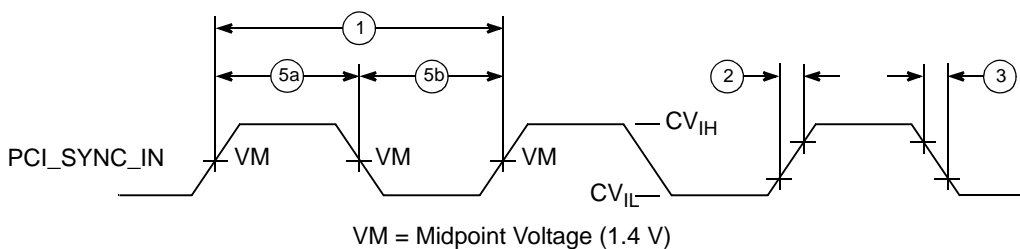
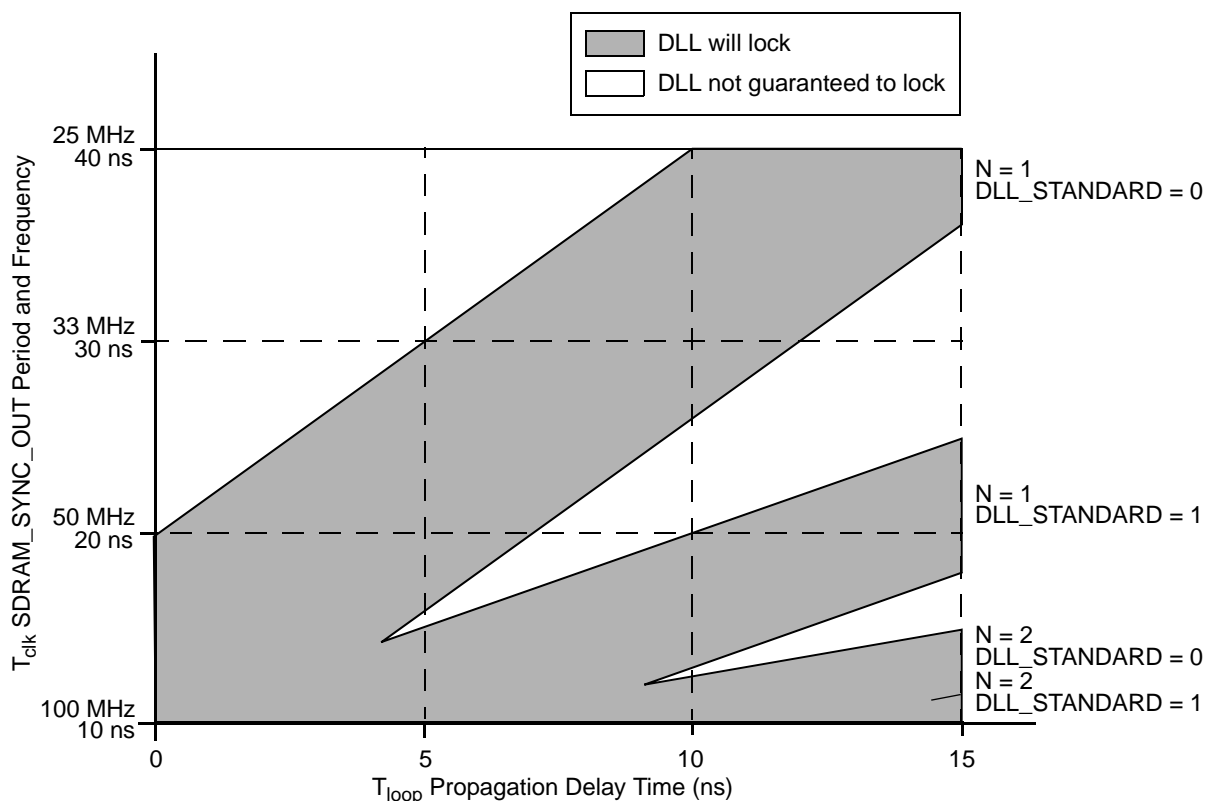

Figure 6. PCI_SYNC_IN Input Clock Timing Diagram
Figure 7. DLL Locking Range Loop Delay vs. Frequency of Operation
- DLL_STANDAR is bit 7 of the PMC2 register <72>. N is a non-zero integer (1 or 2). T_{clk} is the period of one SDRAM_SYNC_OUT clock cycle in ns. t_{loop} is the propagation delay of the DLL synchronization feedback loop (PC board runner) from SDRAM_SYNC_OUT to SDRAM_SYNC_IN in ns; 6.25 inches of loop length (unloaded PC board runner) corresponds to approximately 1 ns of delay. t_{fix0} is a fixed delay inherent in the design when the DLL is at tap point 0 and the DLL is contributing no delay; t_{fix0} equals approximately 3 ns. See Figure 7 for DLL3 locking ranges.
Figure 6 shows the PCI_SYNC_IN input clock timing diagram, and Figure 7 shows the DLL locking range loop delay versus frequency of operation.